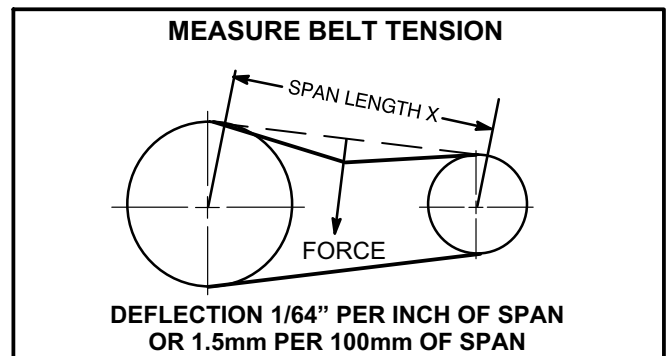

FIGURE 24
- 1- Measure span length X. See figure 24.
- 2- Apply perpendicular force to center of span (X) with enough pressure to deflect belt $1/64$ " for every inch of span length or 1.5mm per 100mm of span length.